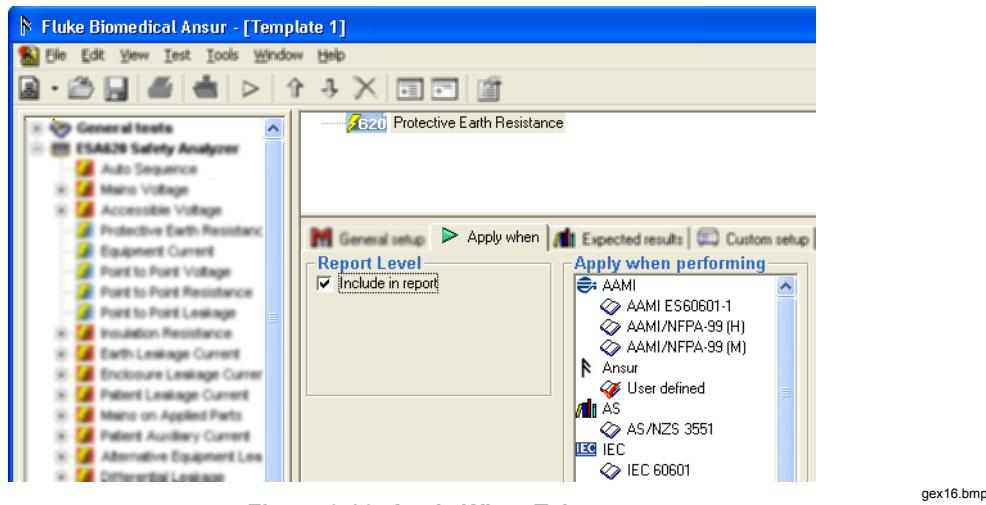

Figure 3-20. Apply When Tab
2. Click the **Apply When** tab below the list of test elements as shown in Figure 3-20.